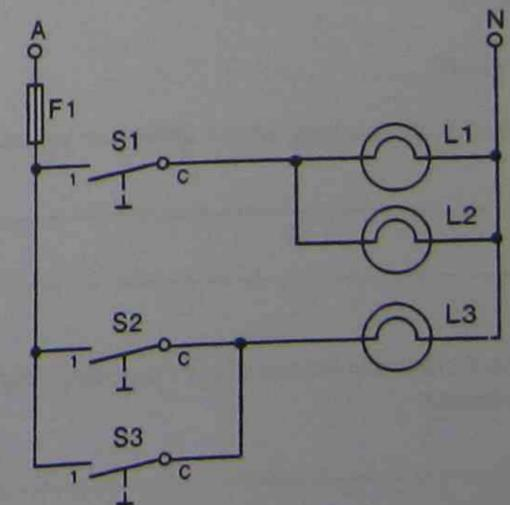

Figure 16 Circuit diagram
21. For the circuit diagram shown in Figure 16 neatly sketch on the layout of Figure 17 the wiring diagram for the circuit.